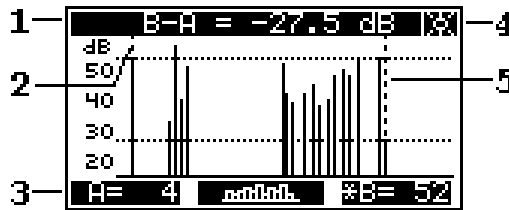

Figure 4.5.5
**RIPPLE** measurement mode can be accessed from **SCAN** mode (see Section 4.5.3) by pressing the **F2** key. In this mode you will see the channels signal level as vertical bars and two dashed lines of ripple between two selected channels. The screen view is shown in Figure 4.5.5: